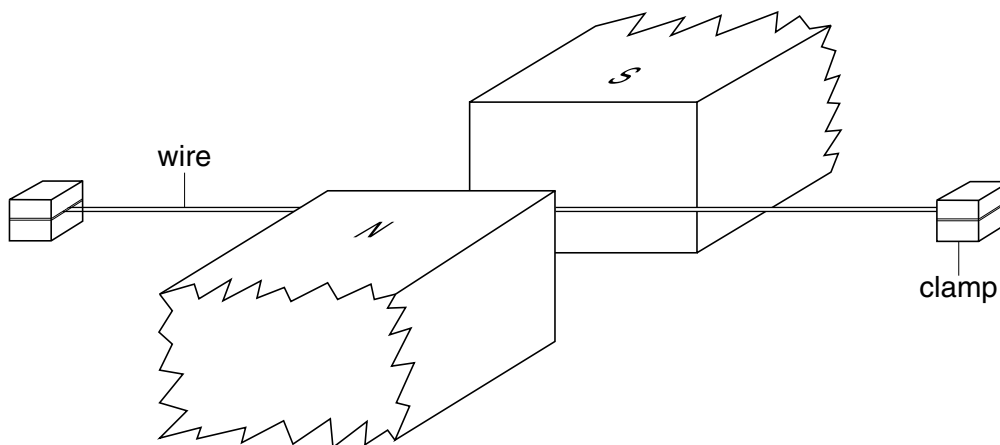

Fig. 7.1
- 5 A metal wire is held taut between the poles of a permanent magnet, as illustrated in Fig. 7.1.